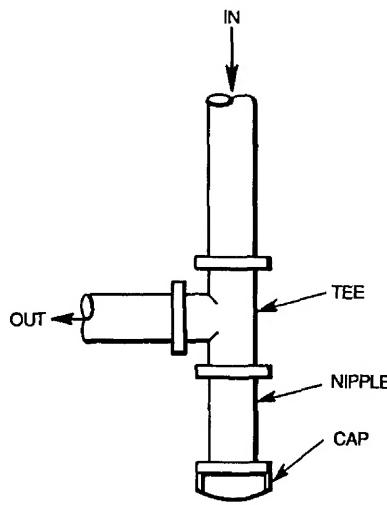

Fig. 7 — Sediment Trap
4. Install sediment trap in riser leading to heating section. This drip leg functions as a trap for dirt and condensate. Install trap where condensate cannot freeze. Install this sediment trap by connecting a piping tee to riser leading to heating section, so that straight-through section of tee is vertical. See Fig. 7. Then, connect capped nipple into lower end of tee. Extend capped nipple below level of gas controls.